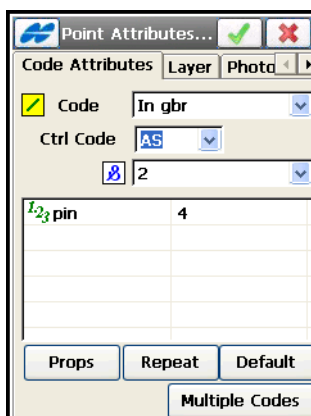

Figure 6-7. Point Attributes
-  – the *Attributes List* icon, opens the **Point Attributes** screen to set the code and attributes available for the code chosen, layer and photo notes (Figure 6-7 on page 6-9).
On the *Point Attributes* screen (Figure 6-7), you can set a code, control code, string (displayed only for a Code Type of Line or Area) and attributes' values for the point.